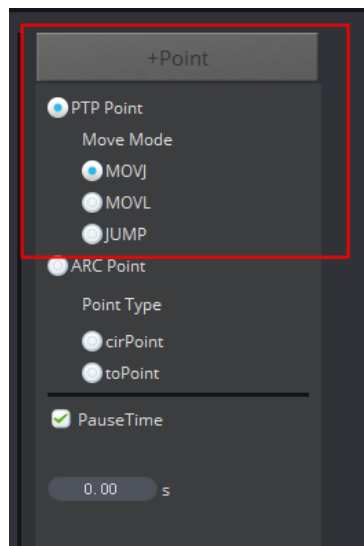

Figure 2.18 Select MOVJ motion mode
2. Select **PTP Point > MOVJ** mode in the Save Point area, as shown in Figure 2.18.